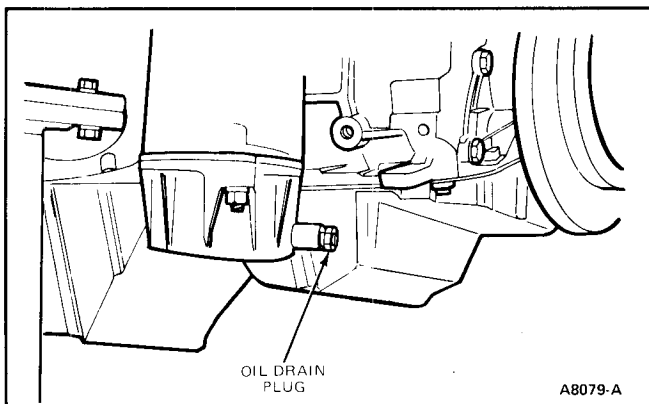

FIG. 48 Oil Filter Drain Plug
- Remove oil filter drain plug and drain oil from filter (Fig. 48).